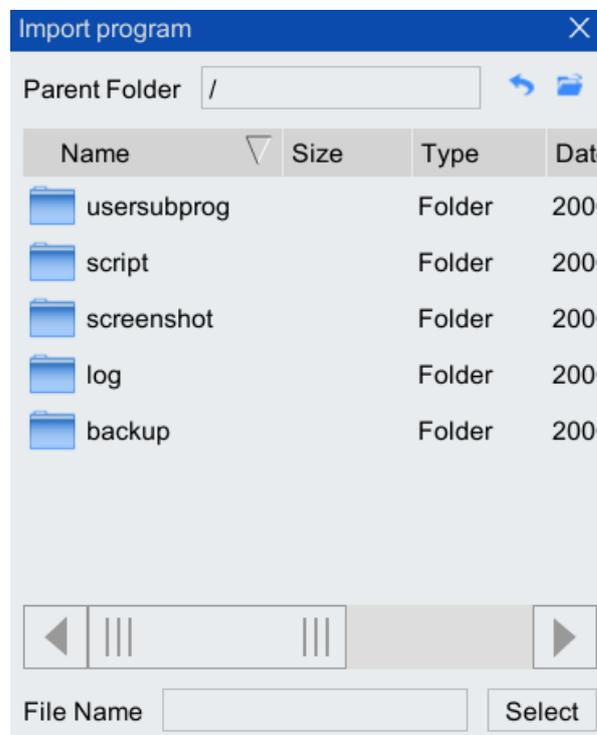

Figure 7-7"Import Program" interface
Step1. In the main interface of the teach pendant, click "File > Restore Backup > Program File" option, and the "Import Program" list box as shown in Figure 7-7 will pop up.